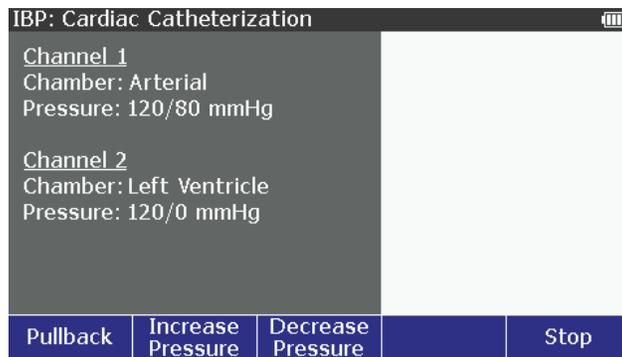

Figure 21. Aortic Valve Catheterization Simulation Screen
1. Push the **Insert** softkey to simulate the insertion of IBP channel 2 catheter into the left ventricle at 120/0. Figure 21 shows the screen for the aortic valve catheterization simulation.